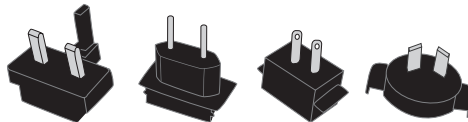

Figure 8-1: System Charger Interchangeable Blades
1. Select the interchangeable blade that matches your power outlet. Four blades are provided for use in the US, the European Union, Australia, and the United Kingdom. See Figure 8-1.